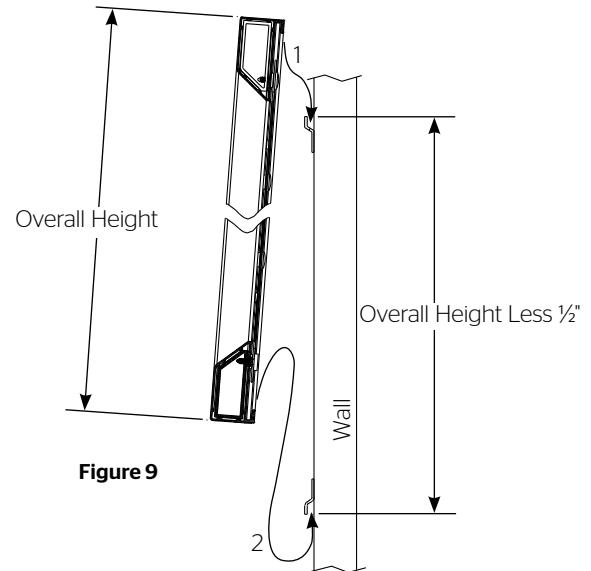

Figure 9
2. To install the bottom large wall bracket, you must measure the overall height of the screen frame and subtract 1/2". This is the dimension from the top of the upper wall bracket to the bottom of the bottom wall bracket. See Figure 9.
3. Position the screen with the attached surface onto the top wall bracket as shown in Figure 9. Push down at the center of the bottom frame rail to hook onto the lower wall bracket.
1. Secure the wall brackets to wall studs at the desired height. Make sure the brackets are level. The top of the frame will be 1/8" above the top of the wall bracket when mounted. You will need at least 5/8" clearance above the bracket to hang the screen. Figure 9 and 10 show the proper orientation for the supplied wall brackets.
2. To install the bottom large wall bracket, you must measure the overall height of the screen frame and subtract 1/2". This is the dimension from the top of the upper wall bracket to the bottom of the lower wall bracket. See Figure 9.